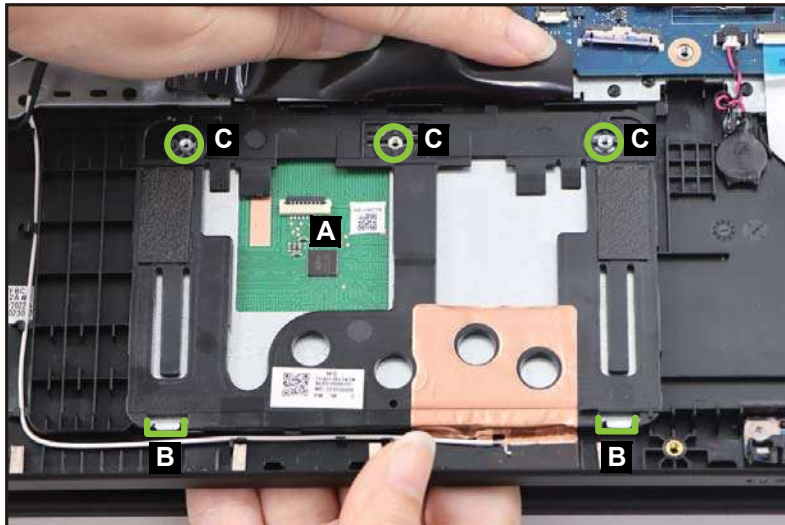

Figure 3-120. Replacing the Touchpad Module
1. Slightly lift the mylar and slide the touchpad module (A) into the bottom latches (B) until those are fully engaged (Figure 3-120).
2. Ensure that the touchpad module is properly aligned with the guide pins (C), push the touchpad module firmly onto its slot until it is fully seated in place (Figure 3-120).